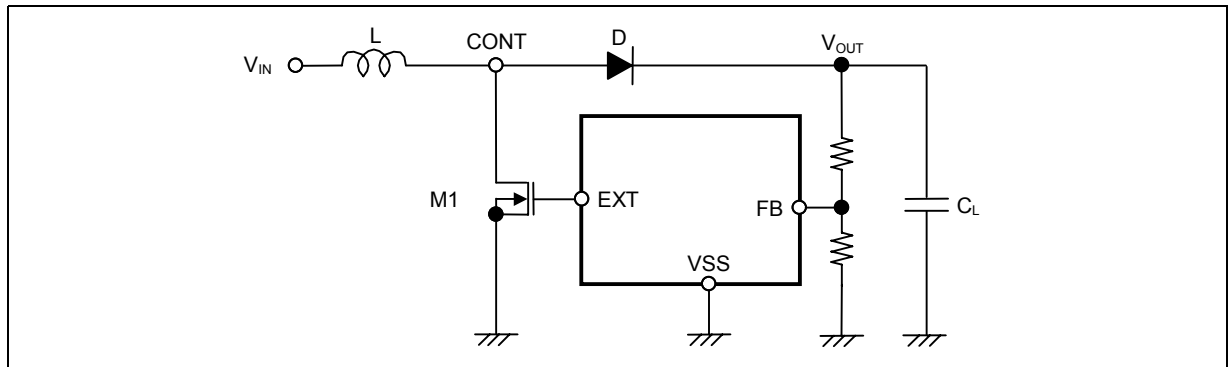

Figure 9 Step-up Switching Regulator Circuit for Basic Equations
The following are basic equations [(1) through (7)] of the step-up switching regulator (refer to Figure 9).